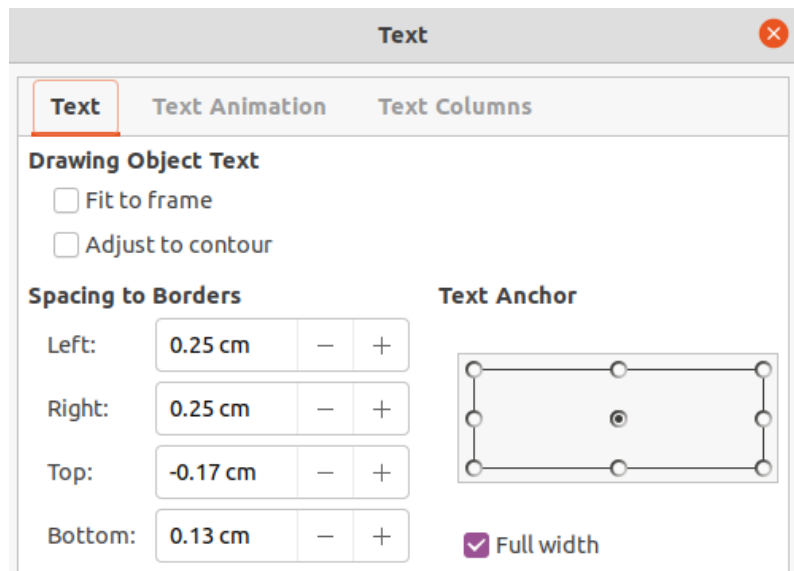

Figure 9: Text dialog - Text page
- 3) Right-click on the connector text and select **Text Attributes** from the context menu to open the Text dialog (Figure 9) and change how the text appears next to the connector. The options available are as follows: